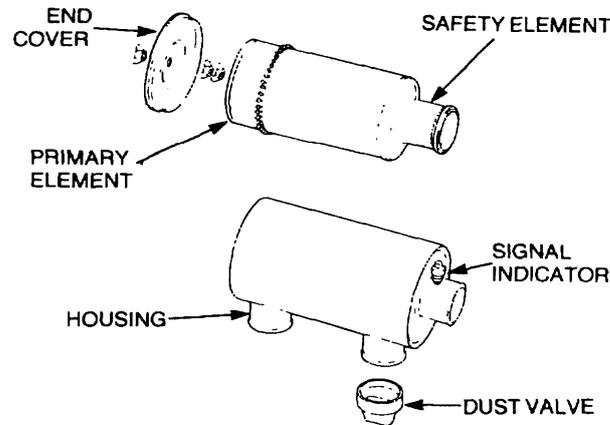

Figure 42 Air Cleaner Elements Replacement
- e. Remove the wing nuts securing the end cover (Figure 42) and remove the end cover.